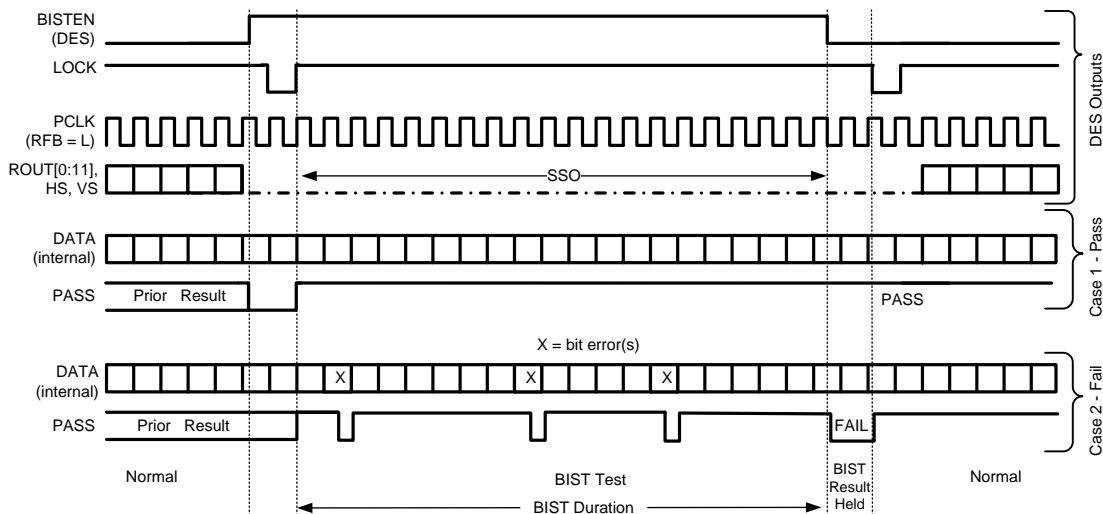

Figure 42. BIST Timing Diagram
**Step4.** The link returns to normal operation after the deserializer BISTEN pin is low. Figure 42 shows the waveform diagram of a typical BIST test for two cases. Case 1 is error free, and Case 2 shows one with multiple errors. In most cases, it is difficult to generate errors due to the robustness of the link (differential data transmission etc.), thus they may be introduced by greatly extending the cable length, faulting the interconnect, or by reducing signal condition enhancements (Rx equalization).